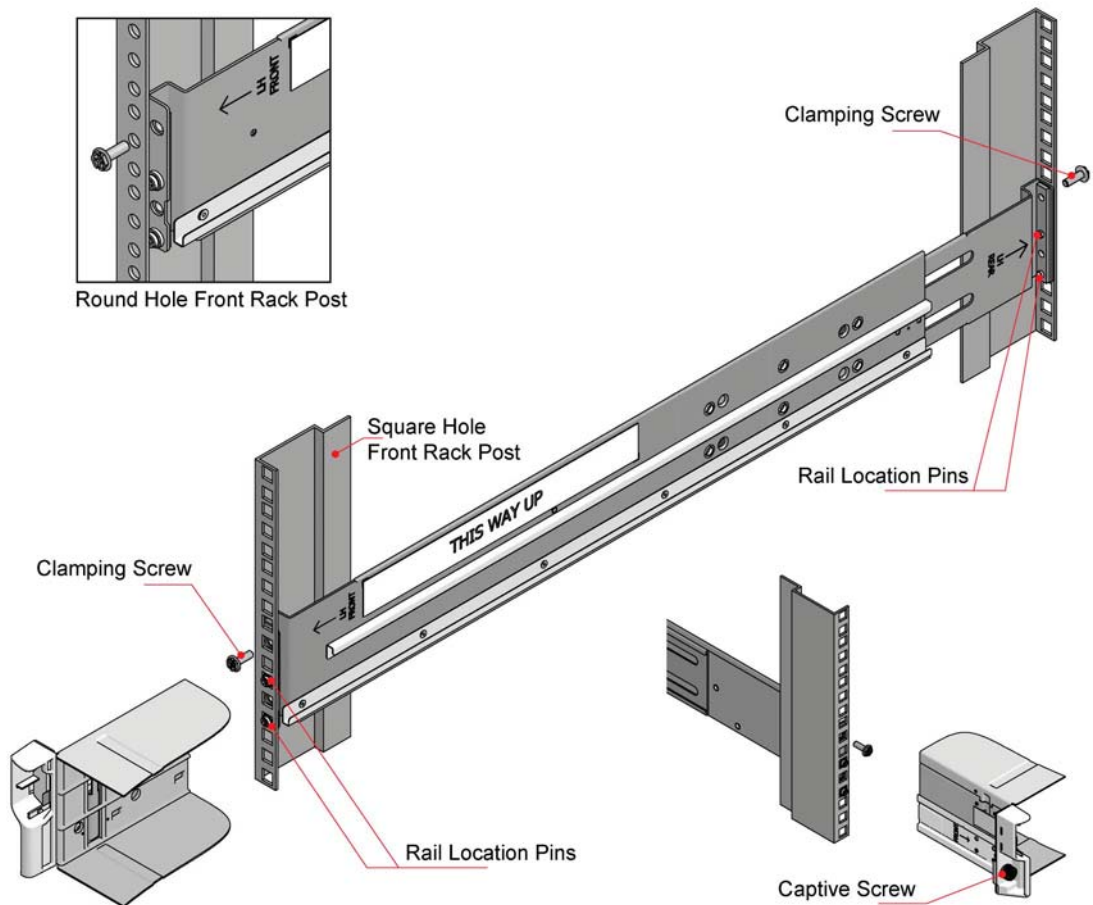

Figure 3-3 Securing Brackets to Rack
- 6 Install the front and rear clamping screws, marked in Figure 3-3. There are 4 screws in total – left and right sides, front and rear. The screws should be left loose enough to allow the rail to move sideways in its slots.